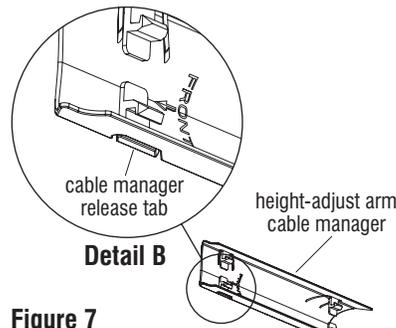

Figure 7
11. Snap cable manager back to the underside of the extension arm assembly taking note the text "FRONT" inside the cable manager (Figure 7 & Detail B).